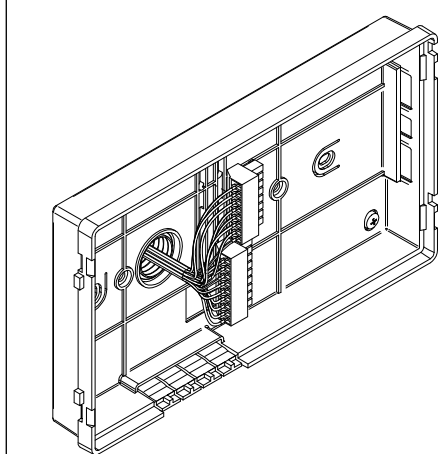
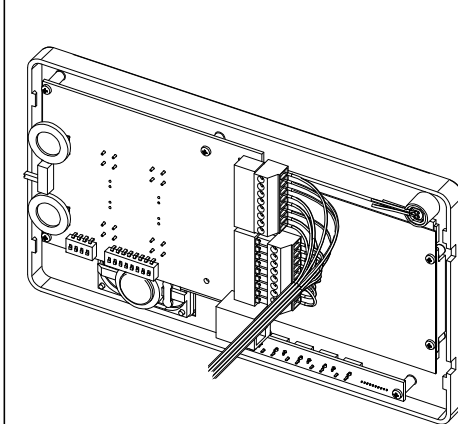
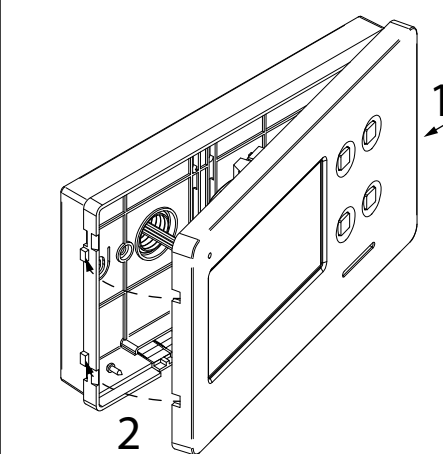

Fig. 4
Fig. 5
Fig. 6
3. Apply the **Y** silicon sealant on top of each module as shown in **Fig. 4**;
4. Before installation of the module support frame, hook the modules **G** to the support frame **H** as shown in **Fig. 5** then, as shown in **Fig. 6**, fit the two anti-tampering locks **W** for each module (do the same for the second module support frame);
4. As shown in **Fig. 4**, connect the wires to the removable terminals following the provided installation diagram. Connect the terminal blocks to the electronics contained in the cover as shown in **Fig. 5**. Test system before closing. Contrast and hue trimmers can be adjusted only if the videophone is open. To activate the display and see changes use the "Camera Recall" function by pressing  button.
5. Once testing is complete and all the necessary adjustments are made, close the unit as shown in **Fig. 6**: first hook in the right part and then the left part until you hear a click.